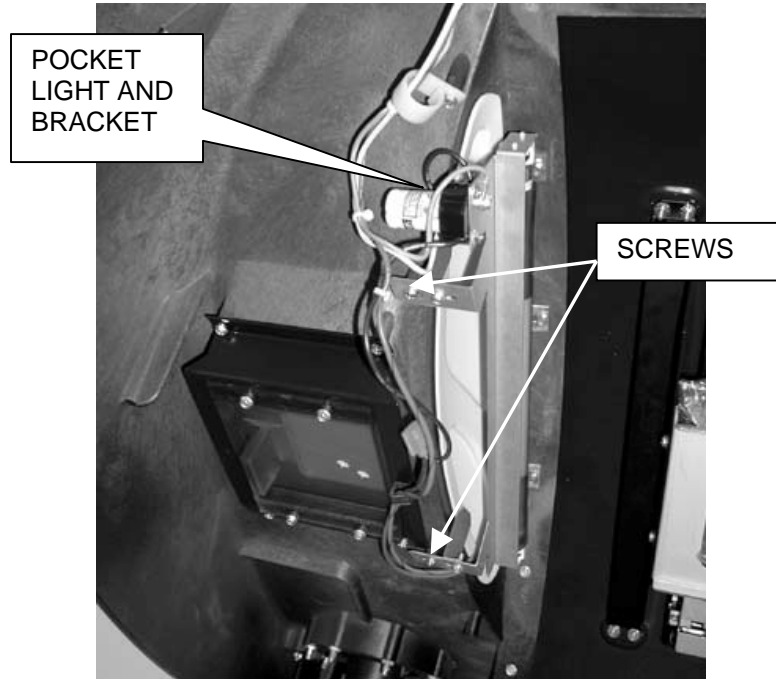

Figure 19 - Installing Pocket Lights and Brackets
7. Reinstall both Pocket Lights and Brackets to door using the original screws. Refer to *Figure 19*.